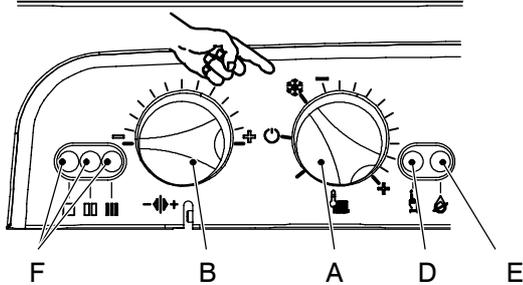

Fig. 17
- 1 Turn the boiler ON positioning the function selector knob A as indicated in Fig. 17.